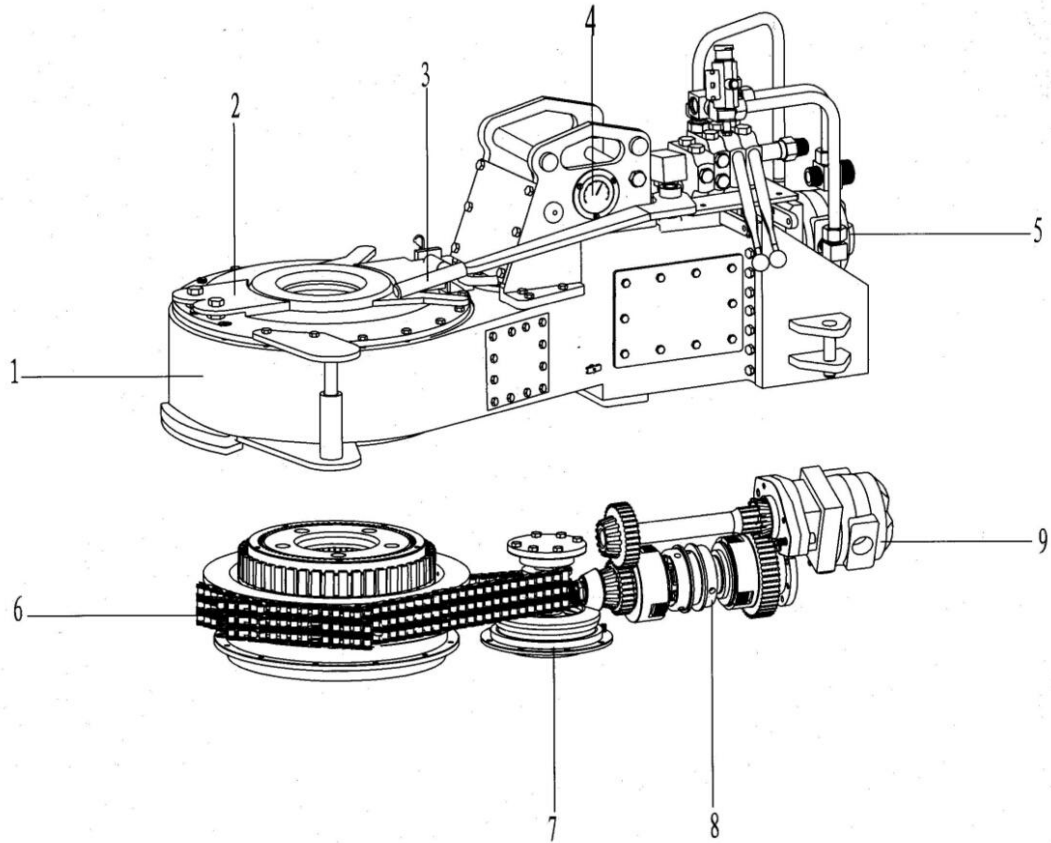

Fig. 15
- 10.2 Assembly of Master Tong ( Fig. 15, Table 2)**
10.2 Assembly of Master Tong( Fig. 15, Table 2)